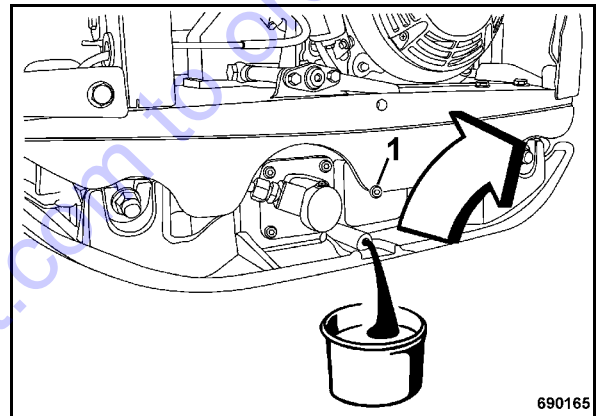

Fig. 59
- Tilt the machine to the side with the oil drain plug and support it safely (Fig. 59).
- Unscrew the bleeding screw (1).